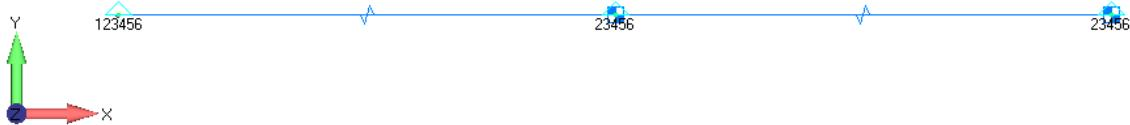

Figure 4-2. Two-DOF spring-mass model.
The two-DOF spring-mass model (Figure 4-2) consists of three nodes connected by two springs in series, with the left node fixed to ground and lumped masses on the other two nodes. The masses are only allowed to translate in the X direction. The two natural frequencies of the system are about 5% apart.
1. You will now perform a frequency response analysis on the 2 DOF model. Import the Nastran model “2dof_modes_base.dat” (Figure 4-2) into Femap and save as “2dof.modfem.”